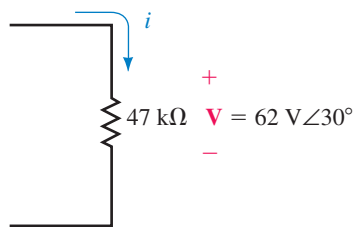

FIGURE 18-78
- Repeat Problem 1 for the resistor of Figure 18-78.